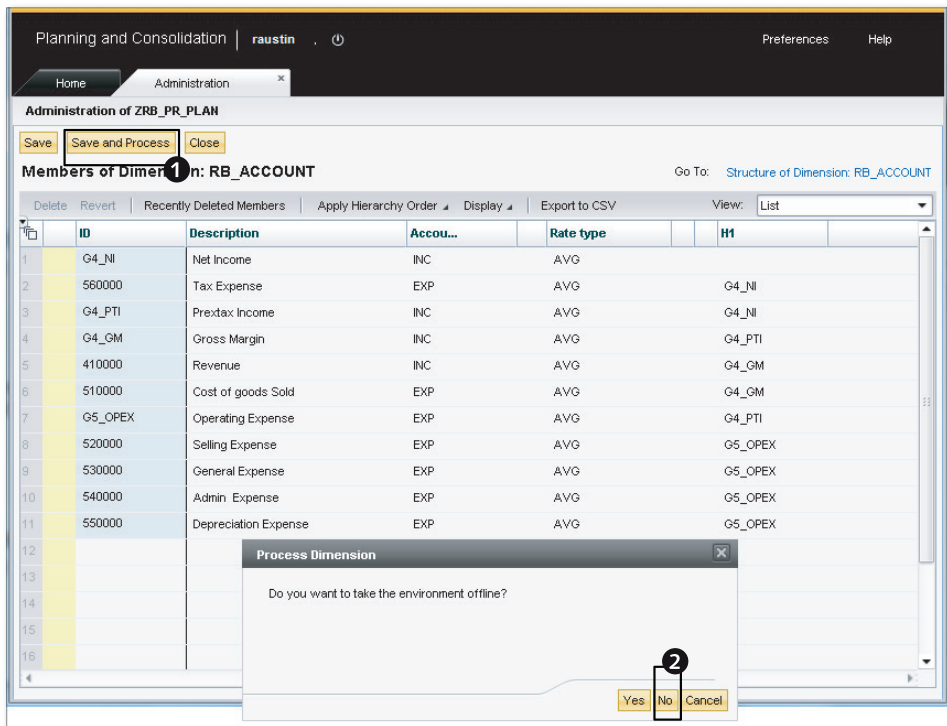
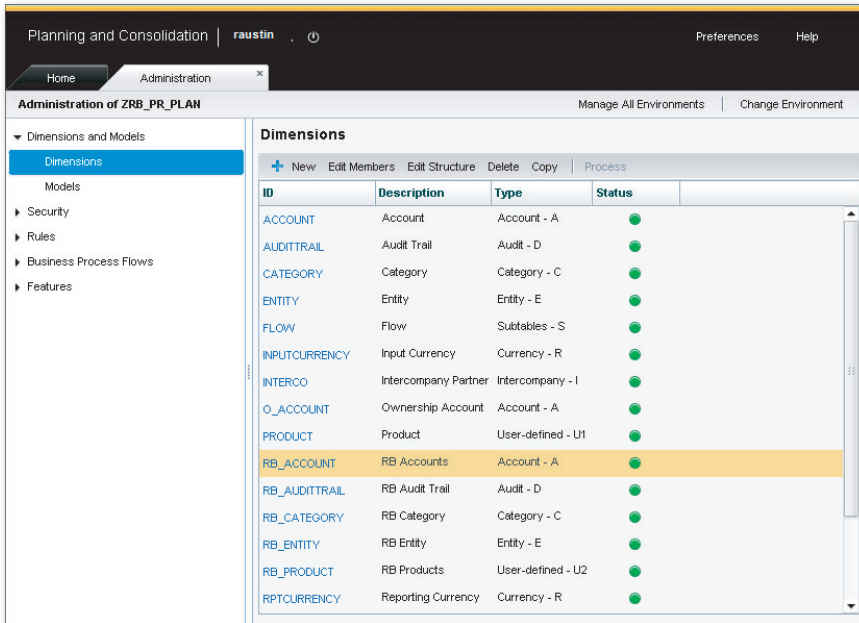

Figure 3.35 Manually Entering Data into a Dimension—Part A
Figure 3.36 Manually Entering Data into a Dimension—Part B
existing data in the dimension because it was originally copied from the ACCOUNT dimension, and enter the member data as shown in Figure 3.35. You can delete a member ID only if it is not already used in a model. If any model contains the member ID, you cannot delete it.
2. The data entered into the dimension has to be processed in SAP BPC to take effect. Select **SAVE AND PROCESS** (Figure 3.35, ❶).
3. This opens the **PROCESS DIMENSION** dialog box. Processing a dimension causes a corresponding attribute change run for the InfoObject in SAP NetWeaver BW. Click on **No** to the question “Do you want to take the environment offline?” (Figure 3.35, ❷). The changes made to the dimension members are processed. You can see the dimension has a status of green to indicate that all of the updates to the dimension are processed (Figure 3.36).